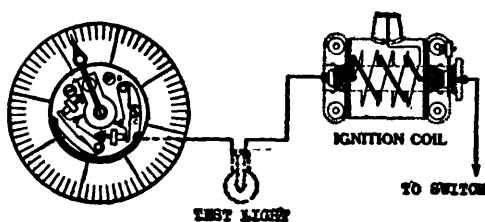
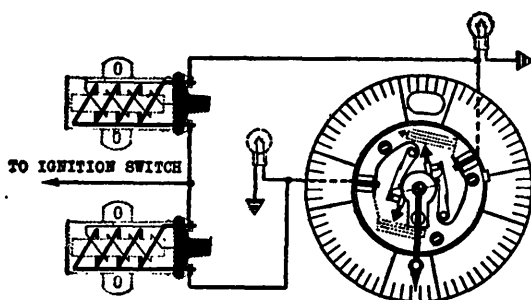

Fig. 3
Fig. 6
D.—In order to accurately locate the relative position of the breaker arms it is necessary to use a 6-volt test light in ignition circuit and a special templet calibrated in degrees (Fig. 3).
F.—The 60-120 degree distributor requires the use of two 6-volt test lights to accurately check timing. These may be connected in series with coil and points as shown by Fig. 3, or in parallel with points as shown by Fig. 6.